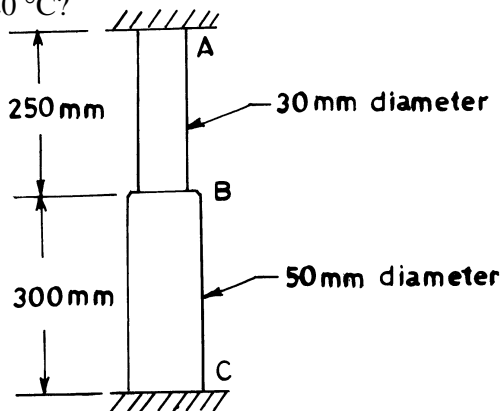

Fig. 6
8. A rod consisting of two cylindrical portion AB and BC (Fig. 6) is restrained at both ends. Portion AB is made of steel ($E = 200 \text{ GPa}$, $\alpha = 11.7 \times 10^{-6} / ^\circ\text{C}$) and portion BC of brass ($E = 105 \text{ GPa}$, $\alpha = 20.9 \times 10^{-6} / ^\circ\text{C}$). Knowing that the rod is initially unstressed, determine (a) the normal stresses induced in portions AB and BC by a temperature rise of 50°C , (b) the corresponding deflection of point B.